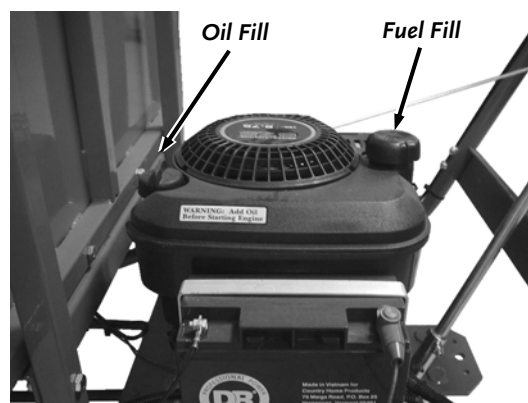

Figure 2
1. Place the machine on a level surface and initially add 16 oz. (1/2 quart) of SAE 30 High Detergent oil recommended by the Engine Manufacturer and wait one minute for the oil to settle (**Figure 2**).
1. Check the oil level every time you use the machine (See **Figure 2** on page 10).
2. Check the gas level (**Figure 2**).